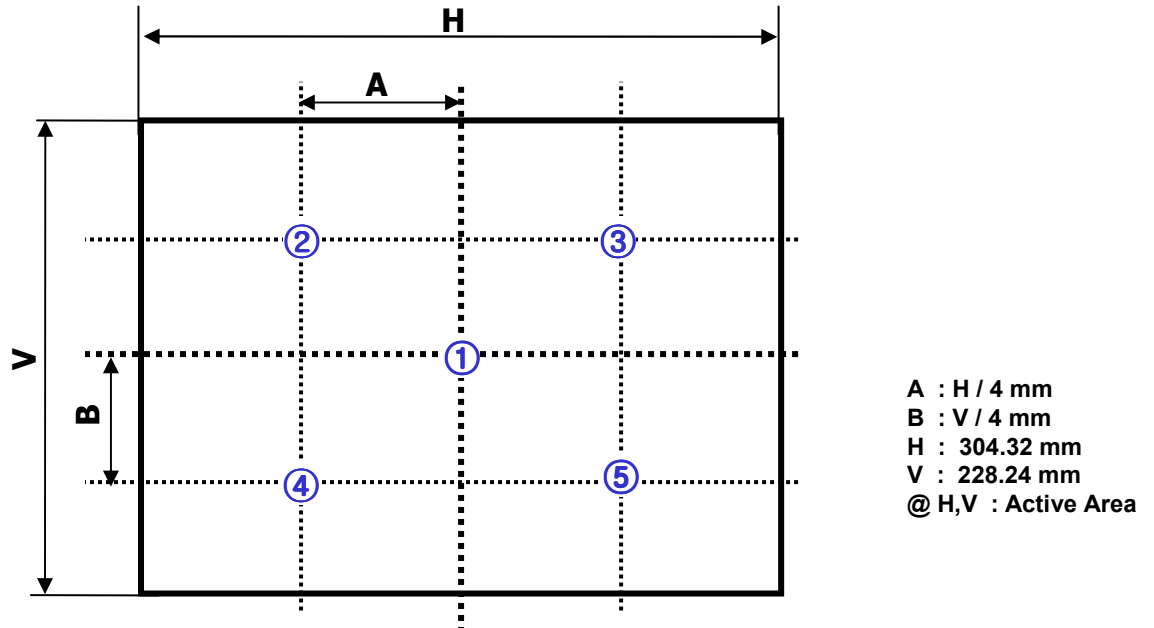

FIG. 2 Measure Point for Luminance
2. Surface luminance is luminance value at center point (1) across the LCD surface 50cm from the surface with all pixels displaying white. For more information see FIG 2.
Where L_{on1} to L_{on5} or L_{on13} are the luminance with all pixels displaying white at 5,13 locations . For more information see FIG 2.